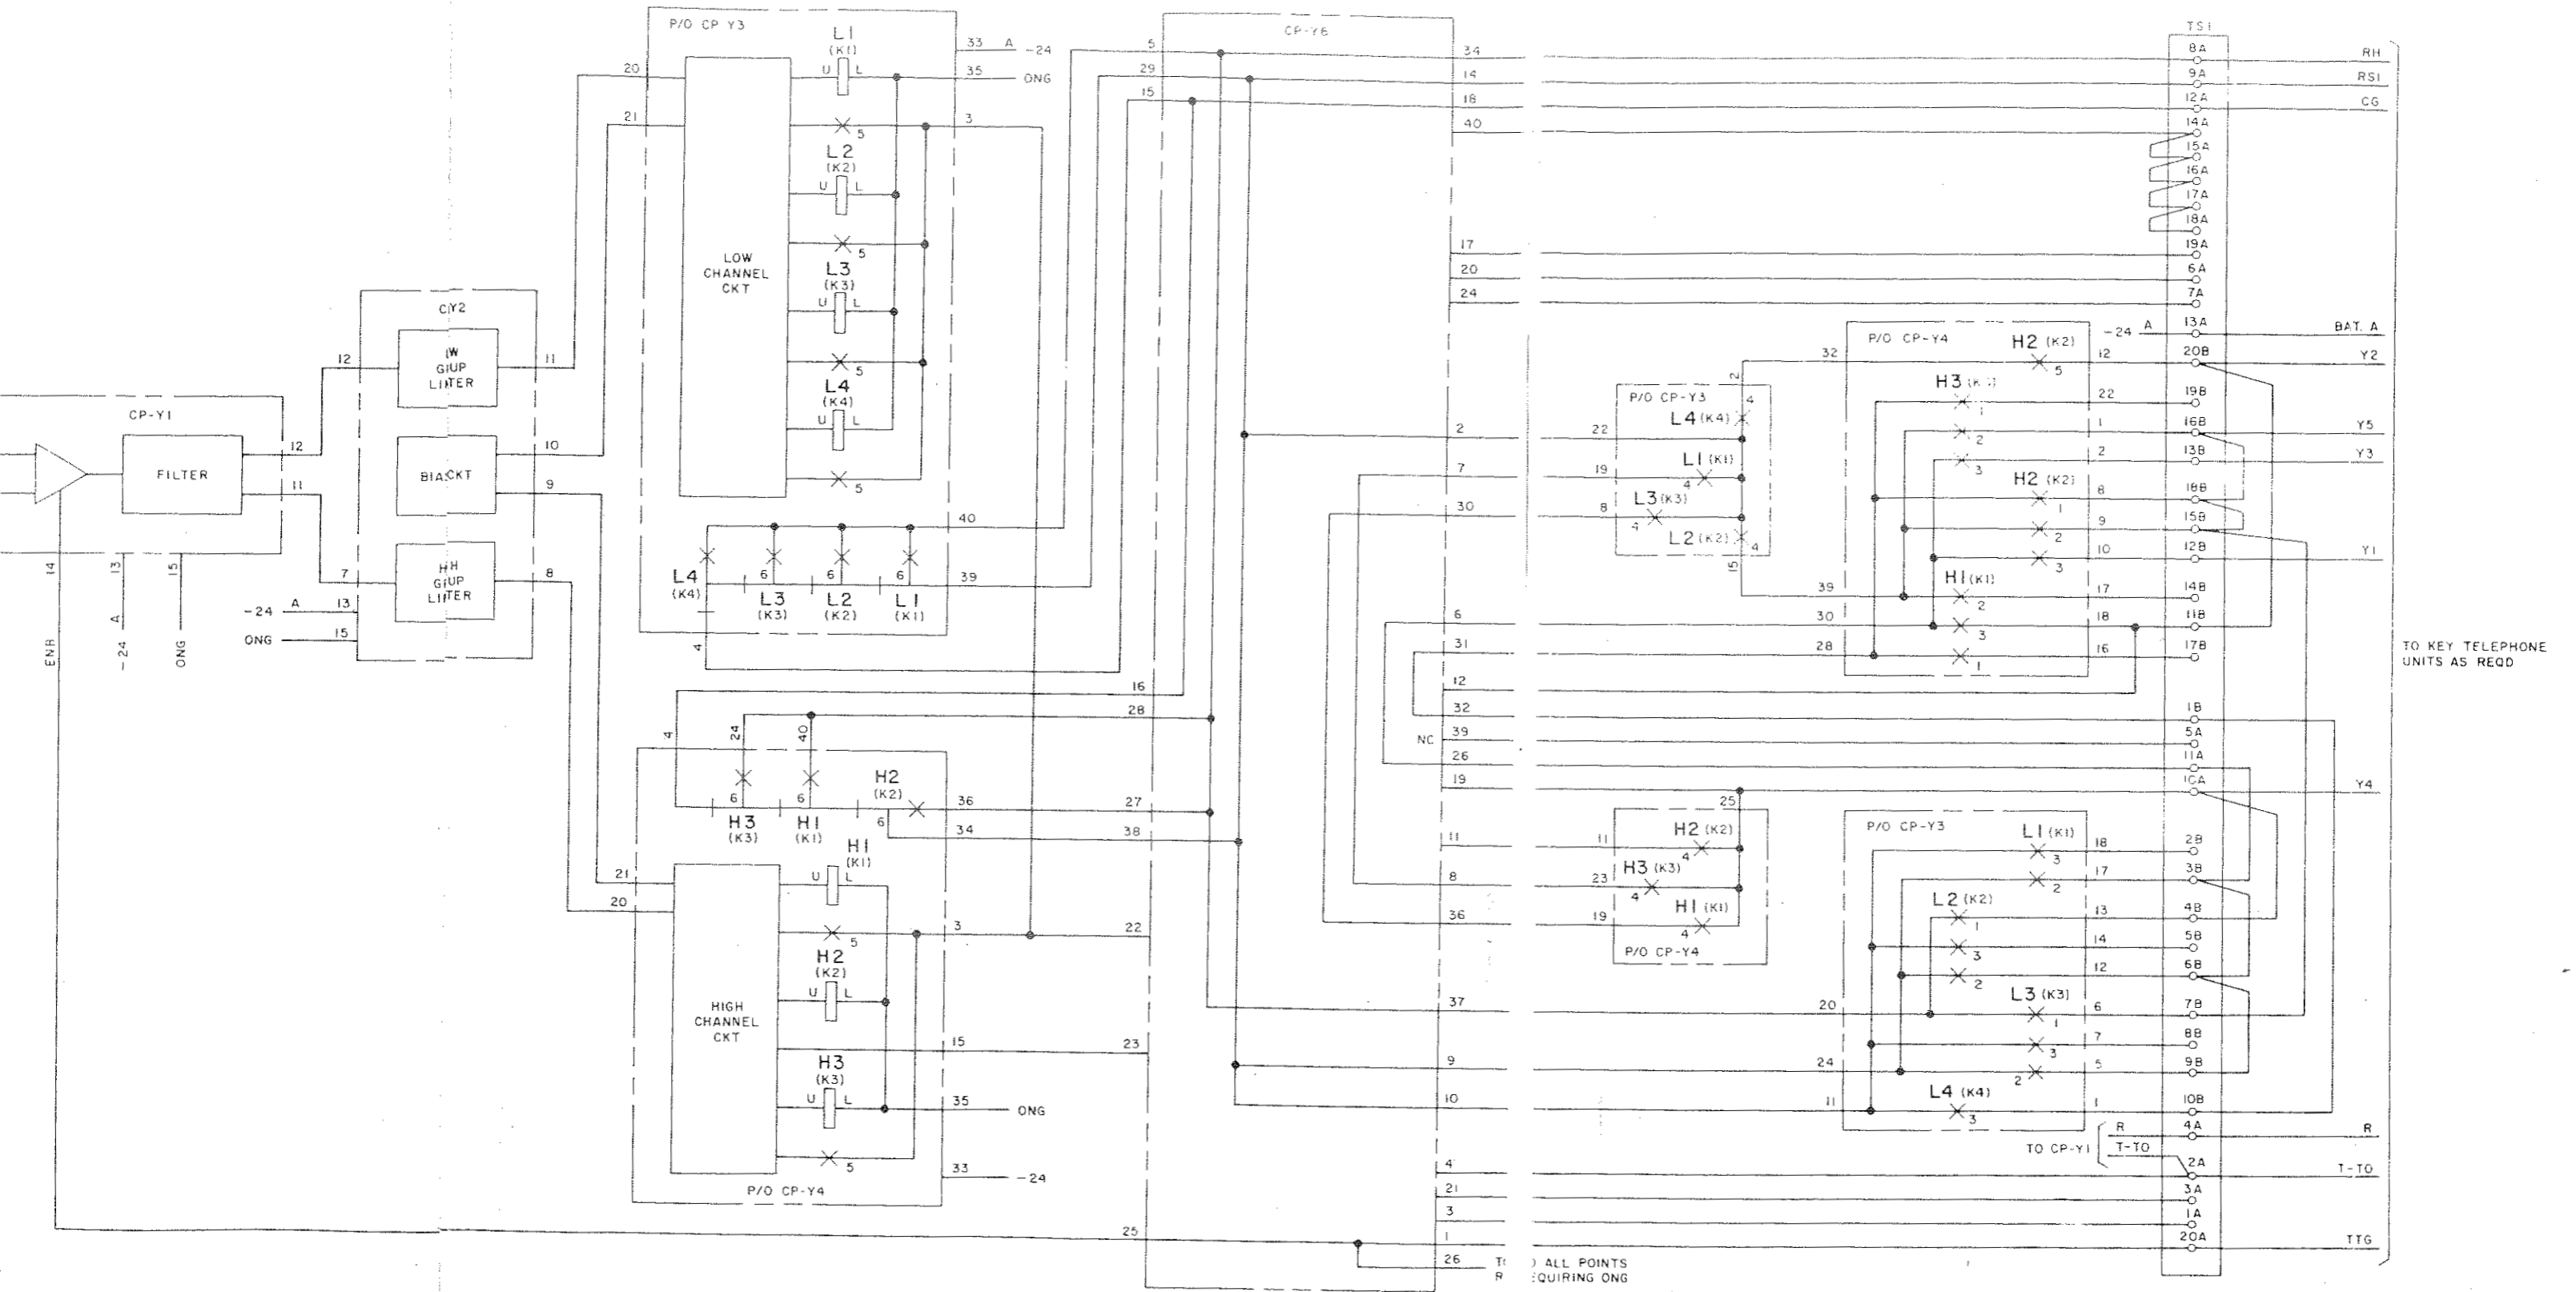

Fig. 10 - Circuit for Use With 407A Selector
4.02 Fig. 10 shows connections to the 247B adapter when used with the 407A selector.